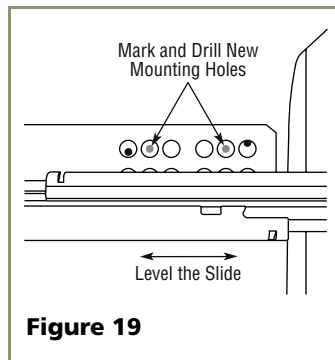

Figure 19
4. Mark new front drilling holes using a different set of mounting holes on the slide. See **Figure 19**.